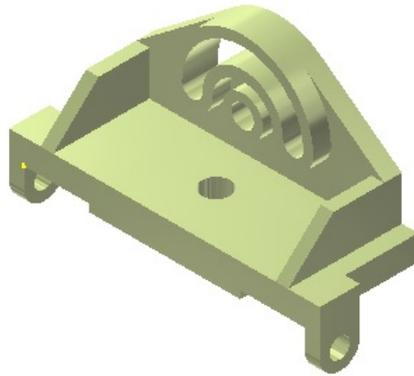

Figure 6-130 Final model for Tutorial 2
- g. Create a hole on the top face of the base feature, refer to Figure 6-130.
7. Set the value of the diameter of the hole in the preview window to **22**; the diameter of the hole in the preview also increases automatically. Choose the **OK** button. The final model for Tutorial 2 is shown in Figure 6-130.